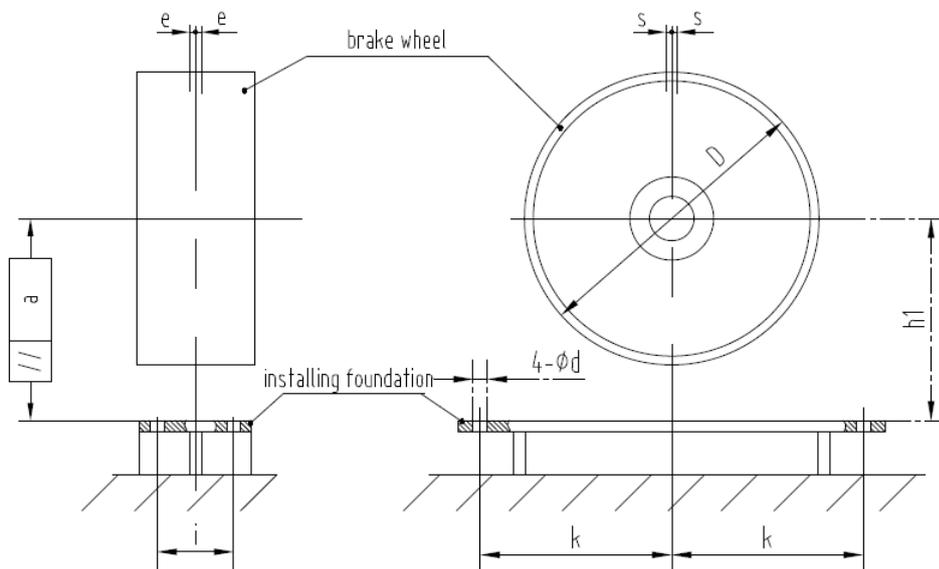

Fig. 3: Brake alignment
- Loosen the lock and adjustment nuts (refer to fig 3) that the lever arms can move freely.